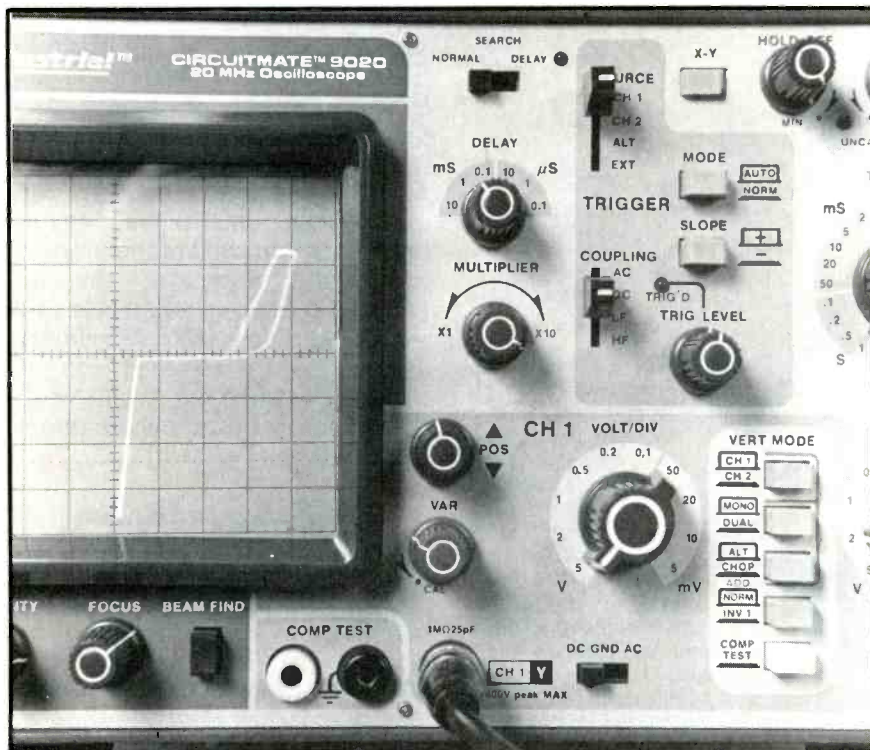

Figure 1. Some scopes have a component-test feature that provides a low-current RMS output to be applied to unpowered devices.
7. The same square wave is being used to test two different amplifiers. Assume the same scope setup for both tests. The leading edges of the output waveforms are shown in Figure 1. Which of the following is correct?
Your scope already may have a component test feature, as indicated by output jacks on the front panel (Figure 1). The jacks correspond to power and ground for a small test voltage, typically less than 9Vac. This voltage may be applied with test clips across component input leads. The output of the component is displayed by the scope as the voltage/current relationship, or the component's *signature*.